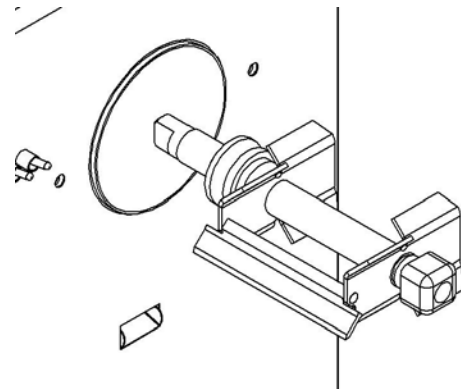

Fig. 17
- g. Insert the dasher assembly into the freezing cylinder as far as possible (Fig. 17) being careful not to damage the scraper blades. Damage will occur to the scraper blades and the dispenser will not operate properly if the scraper blade is installed facing in a clockwise direction.